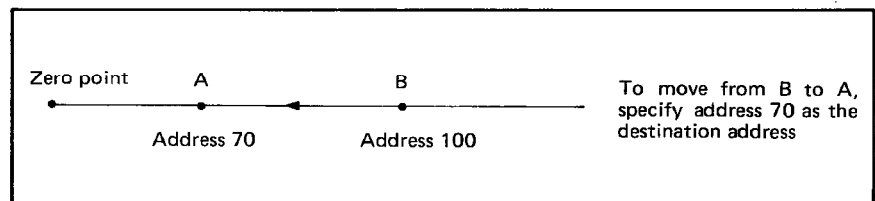

Fig. 2.7 Absolute Method
- In absolute mode positioning, positions are reached with reference to a zero point address. (See Fig. 2.7.)